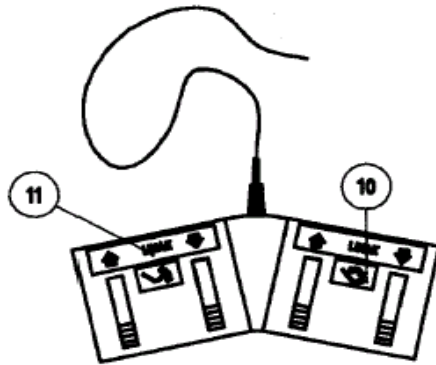

Fig. 2 Pedal control view
The height of the seat is changed electronically by pressing the controller left button (pos. 10, fig. 2) which will raise the height of the seat in the range of ~150 mm, (5.9”), in relation to the ground. Pressing the right button will cause it descend to required height.
The angle at which the backrest segment is positioned is changed electronically using the controller. In order to adjust the backrest inclination angle in a range from 0 to 90° press the controller left button (item 11, fig. 2).